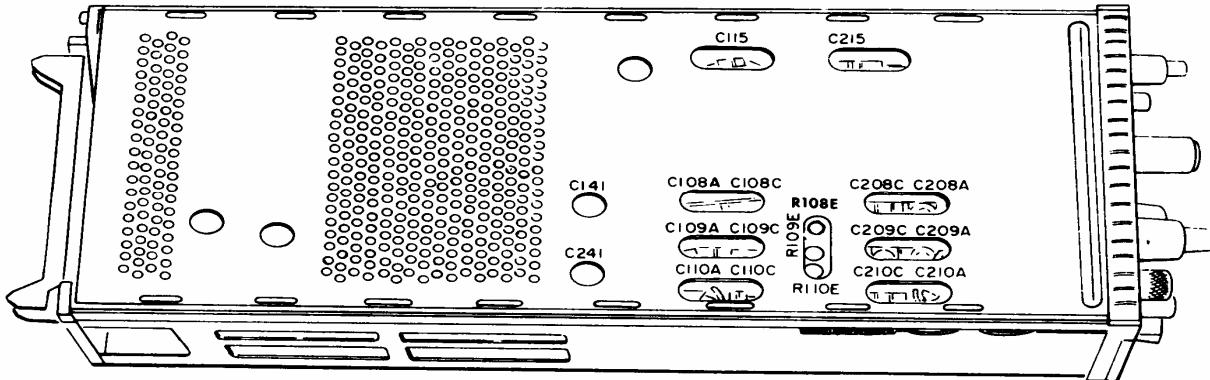

Figure 3. Adjustment locations - left side view (Type 7A22).
- (1) Connect oscilloscope calibrator **SOURCE/MEASURE CHAN 1** output to **TI +INPUT**, using termination.
- (2) Set **VOLTS/DIV** switch to 50 mV and **POSITION** control to midrange.
- (3) Press oscilloscope calibrator **EDGE** key and set oscilloscope calibrator output for 1 kHz and 5 divisions of vertical deflection on oscilloscope. If upper leading corner is not square, adjust C241 (fig. 3) for optimum square wave (R).
- (4) Remove connection from **+INPUT** and connect to **-INPUT**.
- (5) Press **-AC-GND-DC** pushbutton to **DC**. If lower leading corner is not square, adjust C141 (fig. 3) for optimum square wave (R).
- (6) Set **VOLTS/DIV** switch to .1 V.
- (7) Press **+AC-GND-DC** pushbutton to **DC** and **-AC-GND-DC** pushbutton to **GND**.
(8) Connect oscilloscope calibrator **SOURCE/MEASURE CHAN 1** output to TI **+INPUT**, using standardizer.
(9) Press oscilloscope calibrator **VOLTAGE** key and set oscilloscope calibrator output for 1 kHz and 6 divisions of vertical deflection on oscilloscope. Center displayed pulse vertically on crt.
(10) Adjust standardizer for optimum square wave. If optimum square wave cannot be obtained, adjust C115 (fig. 3) for optimum square wave (R).
(11) Repeat technique of (10) above for TI **VOLTS/DIV** switch settings and adjustments listed in table 8.
Test instrument VOLTS/DIV switch settings	Adjustments (fig. 3)
- (2) Set **VOLTS/DIV** switch to 50 mV and press + and -AC-GND-DC pushbuttons to **DC**.
- (3) Set oscilloscope time base **TRIGGER SOURCE** switch to **EXT**.
- (4) Press oscilloscope calibrator **VOLTAGE** key and set oscilloscope calibrator for a 50 V, 1 kHz output. If display on oscilloscope is not of minimum amplitude, adjust R108E (fig. 3) for minimum amplitude (R).
- (5) Repeat technique of (4) above for TI **VOLTS/DIV** switch settings and adjustments listed in table 9.